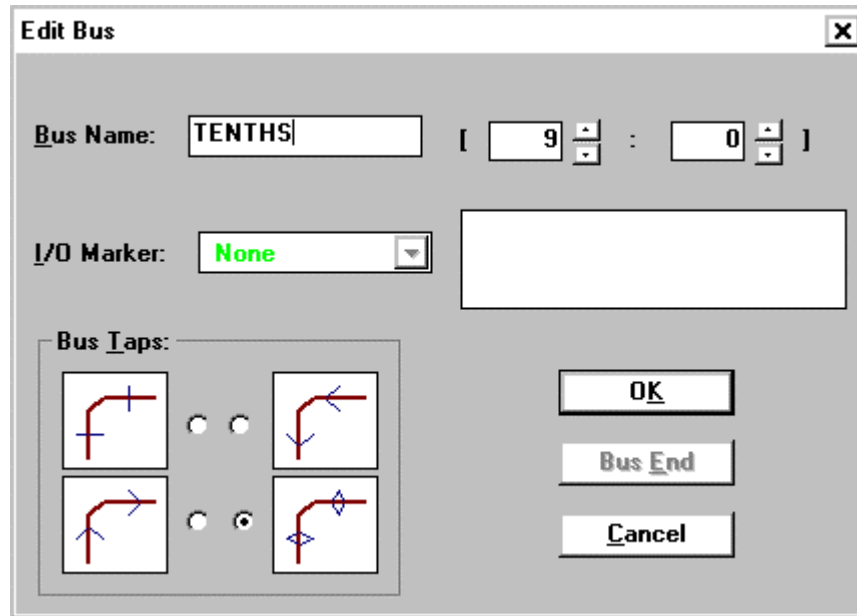

Figure 1. The Edit Bus dialog box.
- 1) To name the busses, double-click on the bus. This action will cause the “**Edit Bus**” dialog box to open (see Figure 1). Enter the name of the bus, and enter the bus width. After this is completed, click on “**OK**”. The bus name should now appear in the schematic.